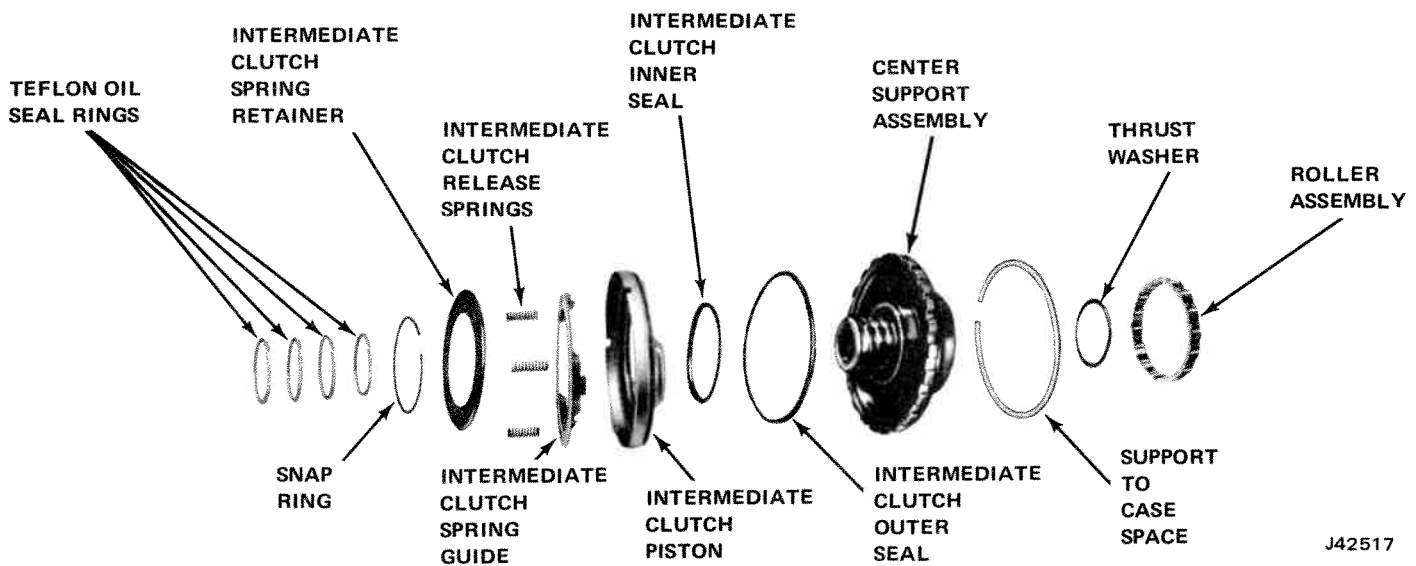

Fig. 7-87 Center Support Components
(1) Remove four Teflon oil seal rings from center support assembly (fig. 7-87).
(2) Compress spring retainer to center support assembly, remove snap ring, and carefully release pressure on spring retainer.
(3) Remove spring retainer three release springs and intermediate clutch spring guide and piston from center support.
(4) Remove inner seal and outer seal from intermediate clutch piston.